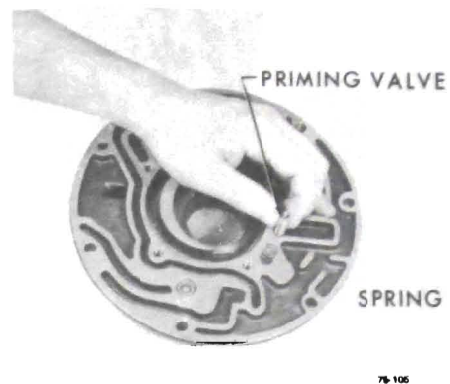

Figure 75-141
7. Remove oil pump priming valve and spring. See Figure 75-141.